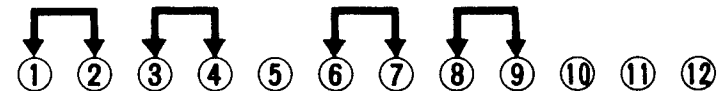

Fig. 2
- 1) Make sure that the rear-panel output terminals and control terminals are connected with jumpers as shown Fig. 2.